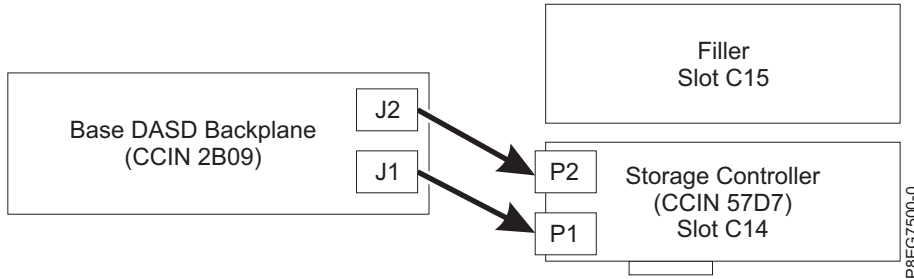

Figure 18. Reconnecting the SAS cable in a base-storage configuration
- If you have one PCIe3 x8 SAS RAID internal adapter (CCIN 57D7) in slot P1-C14 (base storage feature), a SAS cable connects the lower disk drive backplane connector (J1) to the P1 connector on the adapter. A SAS cable connects the upper disk drive backplane connector (J2) to the P2 connector on the same adapter. See Figure 18.